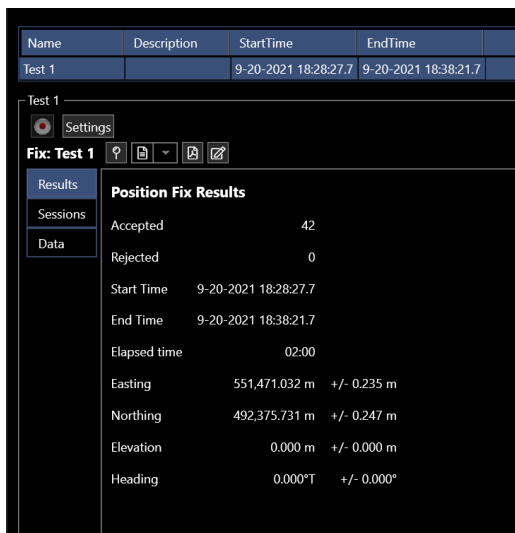

FIGURE 14-110 POSITION FIX TO BE EDITED
4. Access the Active Fixes view (see **Error! Reference source not found.** Select the position fix in the data grid to be edited (see Figure 14-110)